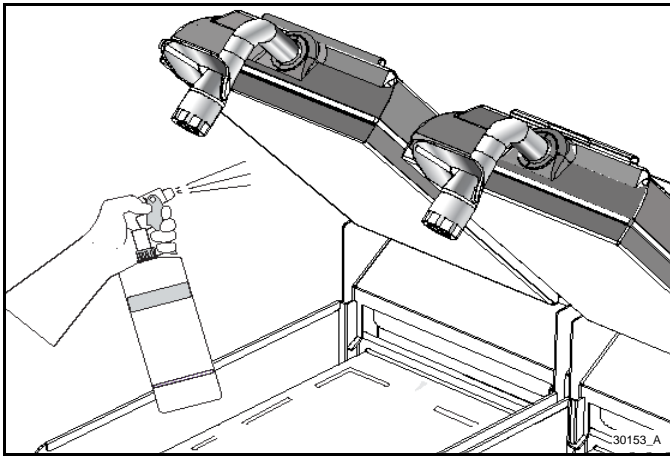

Figure-150
18. After spraying the sides, spray the surface of each upper platen three times to cover the bottom, middle, and top. See Figure-150.